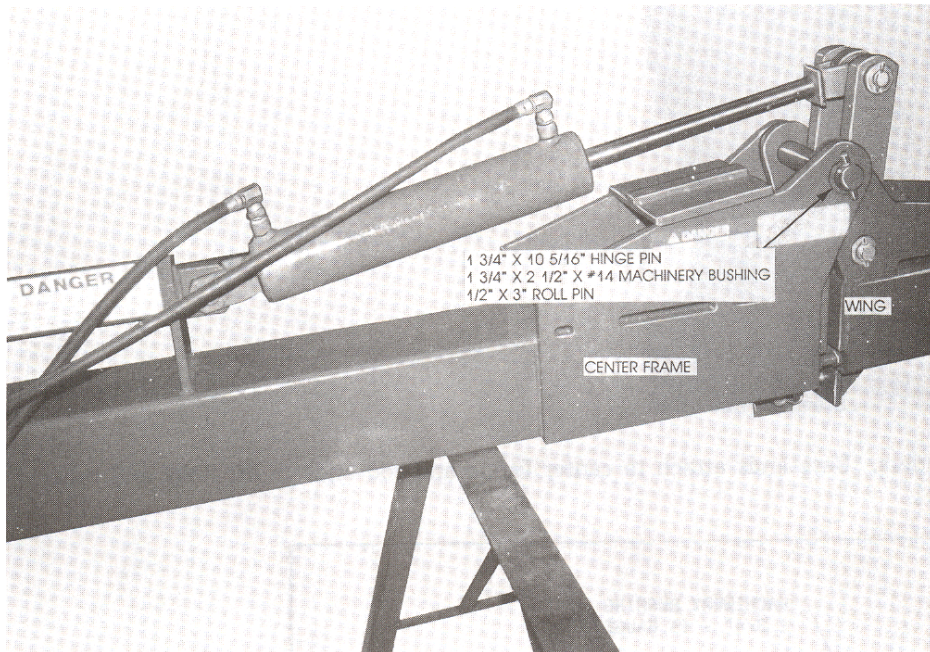

FIGURE 8
2. Position one of the wings between the hinge plates on the center section and install 1-3/4" x 10-5/16" hinge pin. Place a 1-3/4" x 2-1/2" x #14 machinery bushing over each end and drive in a 1/2" x 3" roll pin. Repeat for second wing. See Figure 8.